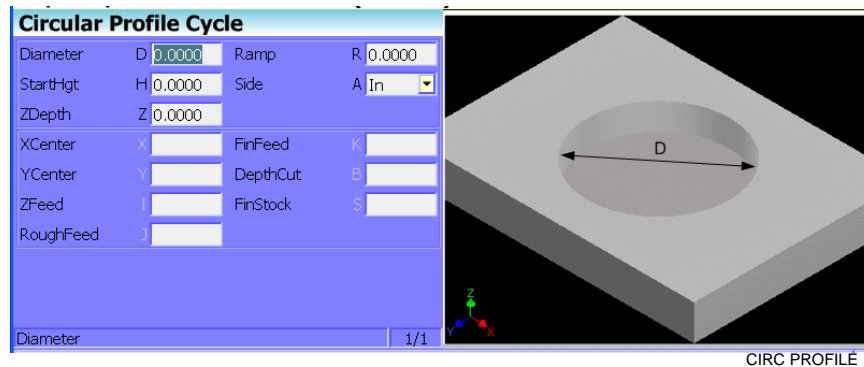

Figure 4-15, Circular Profile Cycle Graphic Menu
The Circular Profile Cycle cleans up the inside or outside profile of an existing circle. Refer to **Figure 4-15**.
2. Highlight **Circ Profile** and press **ENTER** to display the Circular Profile Cycle Graphic Menu. Refer to **Figure 4-15, Circular Profile Cycle Graphic Menu**.